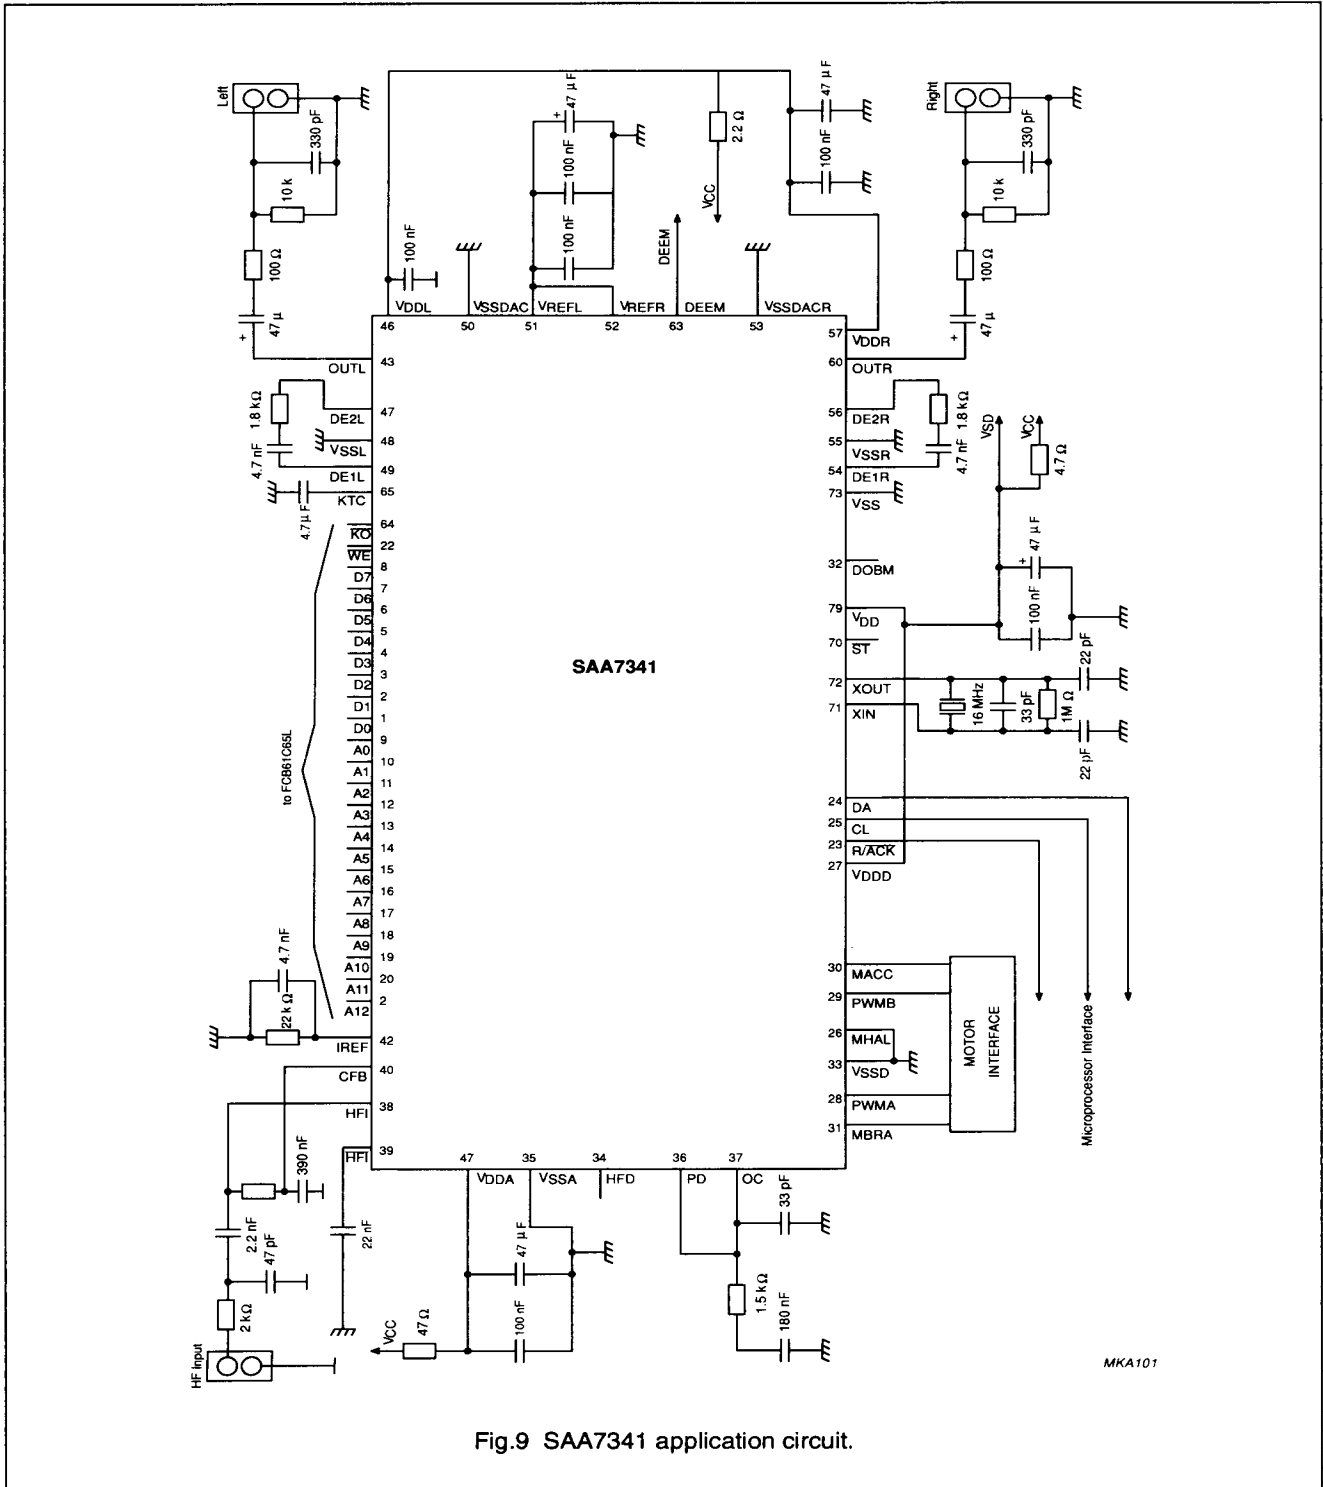

Fig.9 SAA7341 application circuit.
2. Maximum load recommended on OUTL, OUTR, is 5 k Ω , 100 pF. Device measured with external components shown in recommended application diagram (Fig.9). Maximum digital code.